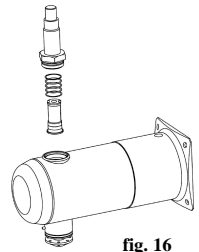

fig. 16
- (existing provided) With the wrench, unscrew the upper closing unit and lift-out the magnetic core and spring. (fig. 16)
- (existing provided) Place the spring and the magnetic core in the upper closing unit and with the wrench screw the upper closing unit onto the outlet part. (fig. 16, page 17)